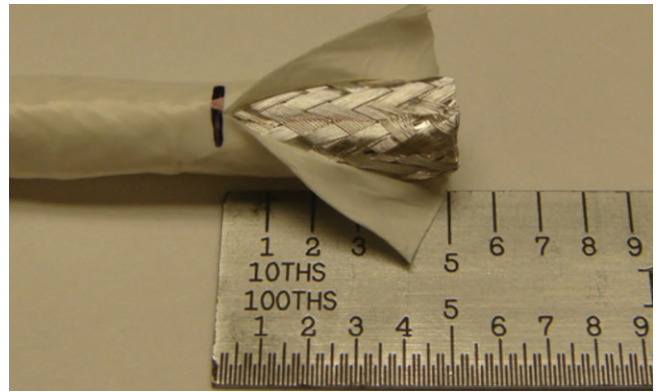

Figure 8: Slitting the cable jacket
3. Using a scalpel or scissors, slit the cable's jacket from its edge to the mark (Figure 8).